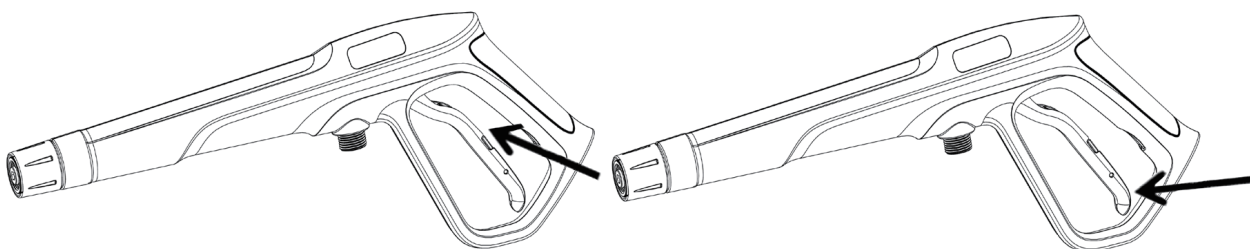

Figure 4&5: Trigger Lock
4. Push the trigger lock button, ensure the trigger in the “OFF” position. See figure 4 and 5.